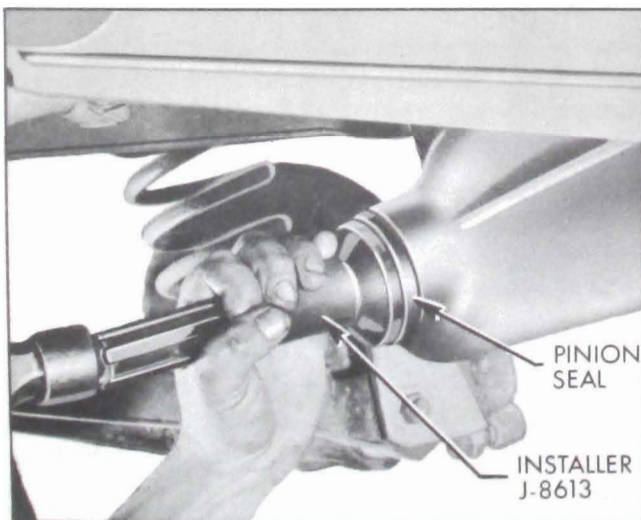

Figure 6-25—Installing Pinion Oil Seal
OD of new pinion oil seal with sealing compound and install seal using Installer J-8613. See Figure 6-25.
6. Reinstall pinion and bearing assembly carefully in carrier with new thickness preload spacers. Install pinion flange and nut and tighten to 200 ft. lbs. See Figure 6-25.